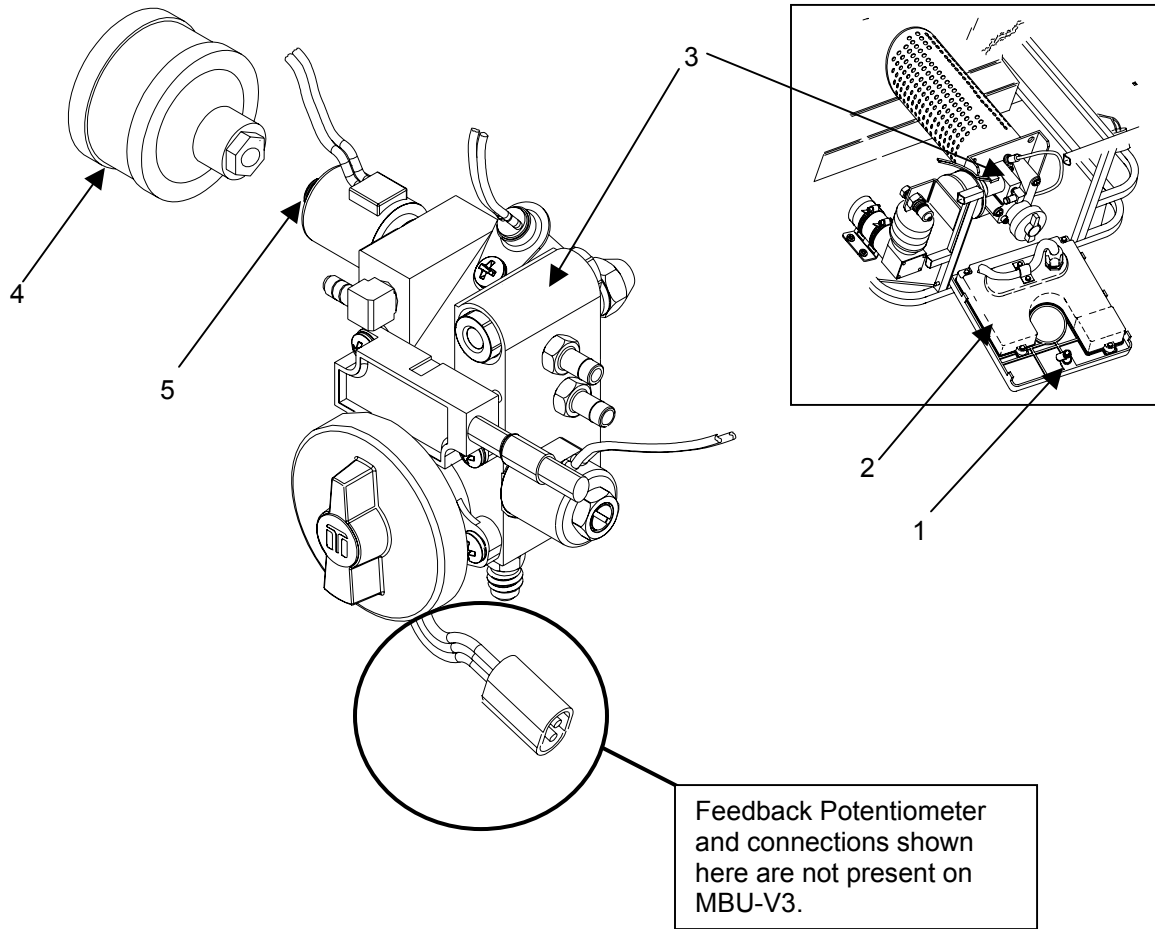

Figure 1. Replace the Air Filter
1. Turn locking latch (**figure 1, item 1**) on top of front panel (**figure 1, item 2**) counterclockwise. Lower front panel of MBU to gain access to Fuel Delivery Block (**figure 1, item 3**) and Air Filter (**figure 1, item 4**).
2. Grasp air filter (**figure 1, item 4**) and rotate counterclockwise (hold body of solenoid to prevent turning) to unscrew from the threaded fitting (**figure 1, item 5**) on the air/fill solenoid valve of the fuel delivery block (**figure 1, item 3**).
3. Screw the new air filter (**figure 1, item 4**) onto the threaded fitting (**figure 1, item 5**) until it is securely in place. Hand tighten the air filter.
4. Close and secure front panel (**figure 1, item 1**).